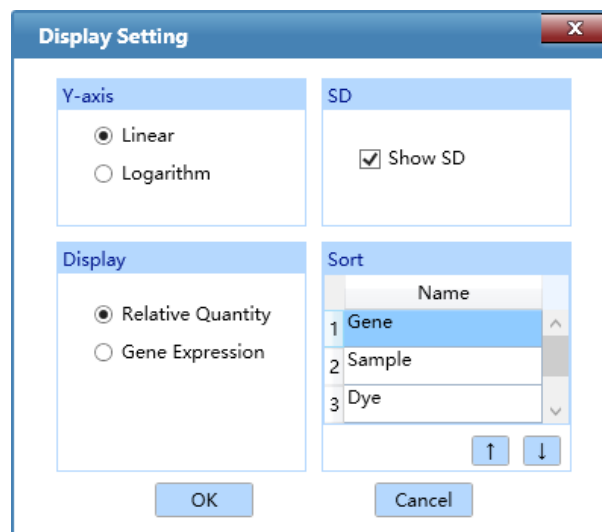

Figure D-11.2. Rel Quant Interface - Display Setting Window
- < **Display Setting** >: user can click < **Display Setting** > icon and the application software will automatically pop up the display setting window, as shown in figure D-11.2.